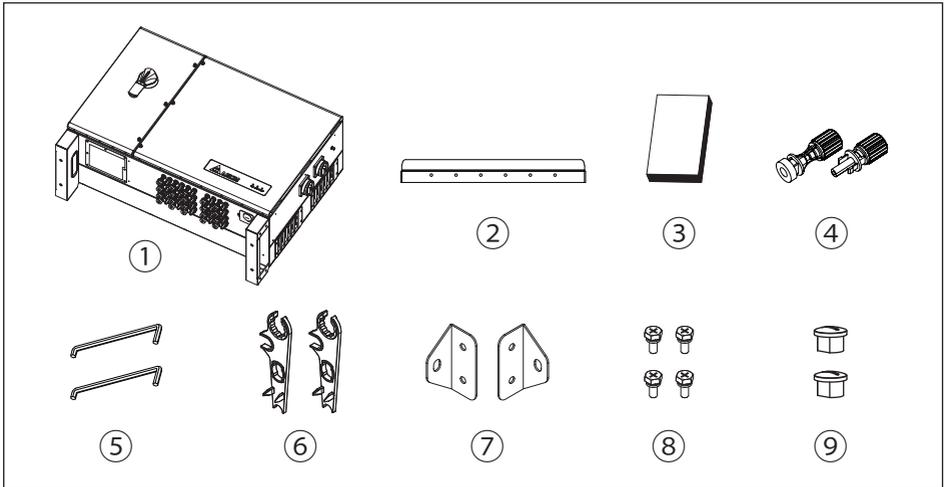
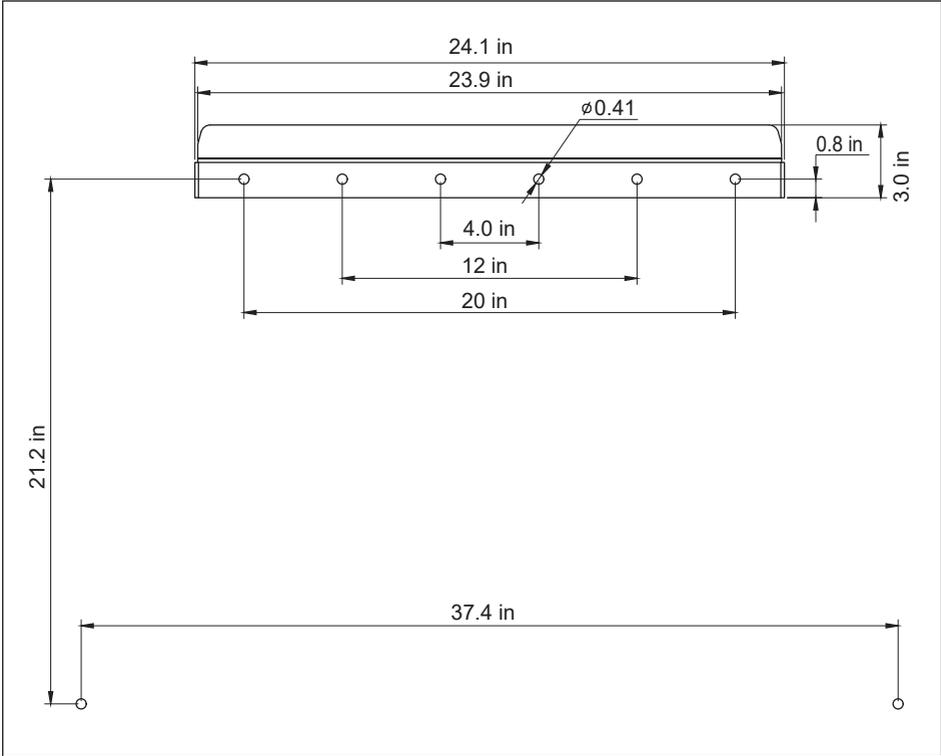
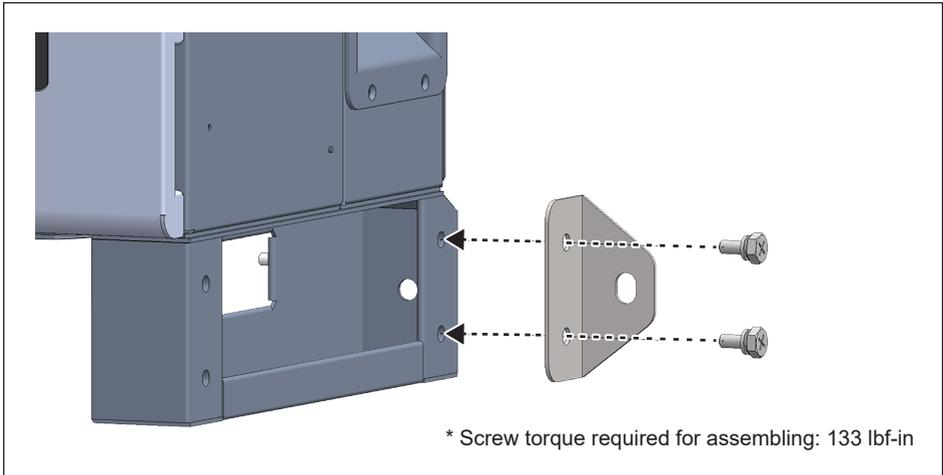
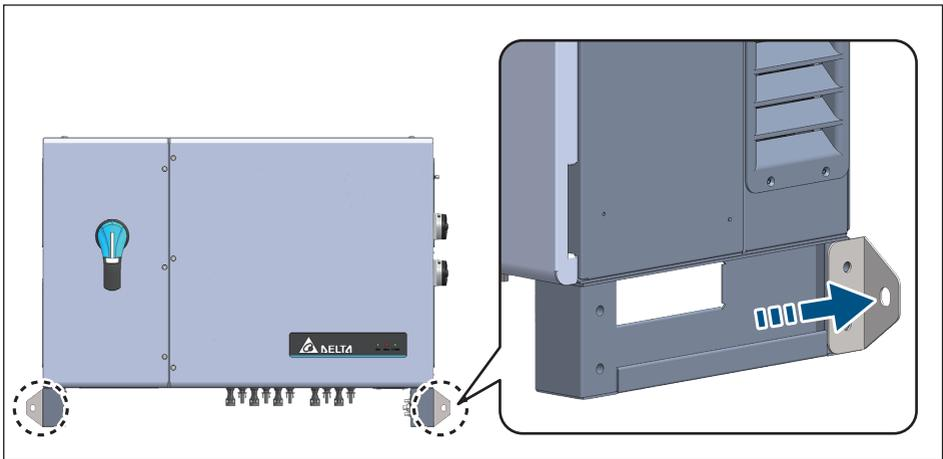

Figure 2-1: Components
Figure 3-5: Mounting bracket dimensions
Figure 3-8: Install the unit on the feet
Figure 3-9: To secure inverter reinforce brackets to wall-mounting bracket
The components of M125HV is shown as **Figure 2-1**.
Refer to **Figures 3-5** through **Figures 3-9**.
2. Orient the wall bracket (**Figure 3-5**) horizontally (perpendicular to the floor), with the large plate at the bottom, and mark required mounting hole locations per **Figure 3-9**.
5. Secure the inverter by inserting and tightening 2 M10 screws (item 8, **Figure 2-1**) as shown in **Figure 3-9**.
After installing the reinforce brackets on the feet (**Figure 3-8**), secure the reinforce brackets to the wall with two screws per **Figure 3-9**.